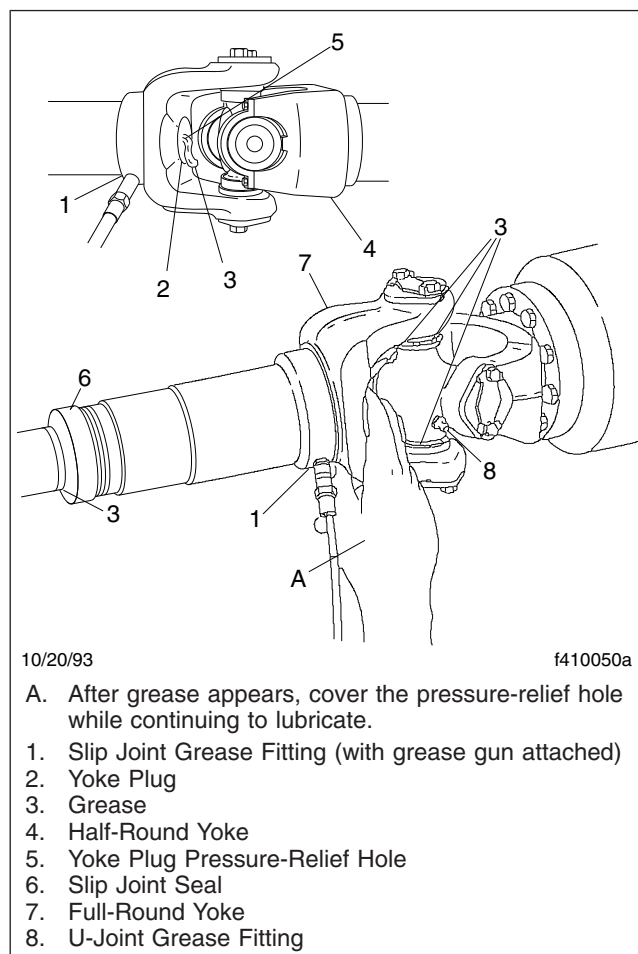

Fig. 5, Slip Joint and U-Joint Lubrication
9. For driveshafts with slip joints, check to be sure the yoke plug is not loose or missing. See **Fig. 5**. Repair or replace the yoke plug as needed. If the yoke plug is missing, the splined shaft may be hitting the plug and knocking it out; contact your Regional Service Office for assistance in determining the correct driveshaft length.
2. Wipe all old grease and dirt from each U-joint grease fitting. See **Fig. 5**.
1. If equipped with a grease fitting, wipe all old grease and dirt from the slip joint grease fitting. See **Fig. 5**.
2. Use a hand-type grease gun or a high-pressure gun with a low-pressure adapter, to lubricate the slip joint. Add multipurpose chassis grease (lithium 12-hydroxy stearate, NLGI Grade 2, with EP additives) until it appears at the pressure-relief hole in the yoke plug. Then cover the relief hole with your finger, while continuing to apply gun pressure until new grease appears at the slip joint seal. See **Fig. 5**. This ensures complete lubrication of the splines.